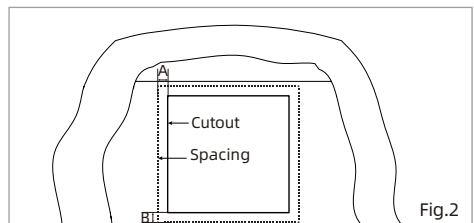

Fig.2
4. Refer to Fig.2 for adequate spacing from other items on the RV wall to the door assembly.